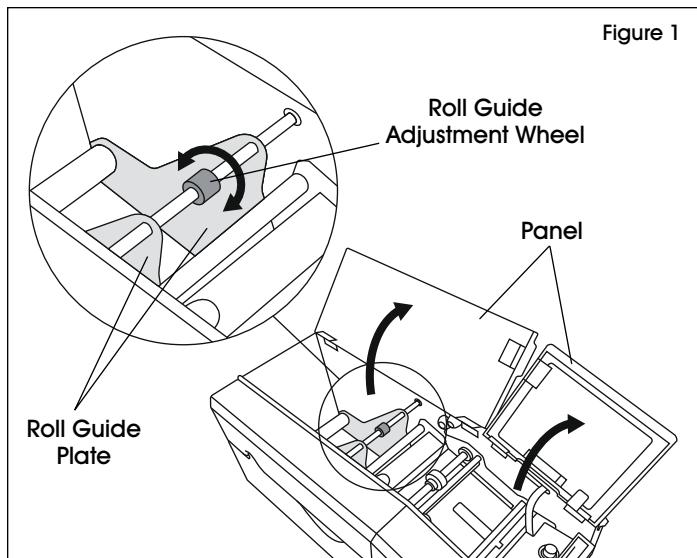

Figure 1
1. Open panels and adjust roll guide plates to fit tape width. (See Figure 1)